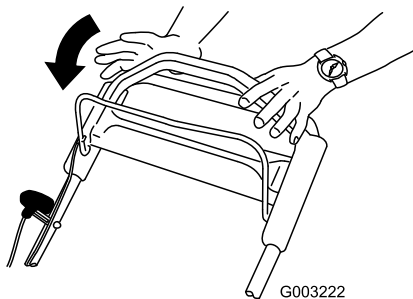

Figure 19
1. Release the blade control bar (Figure 19).